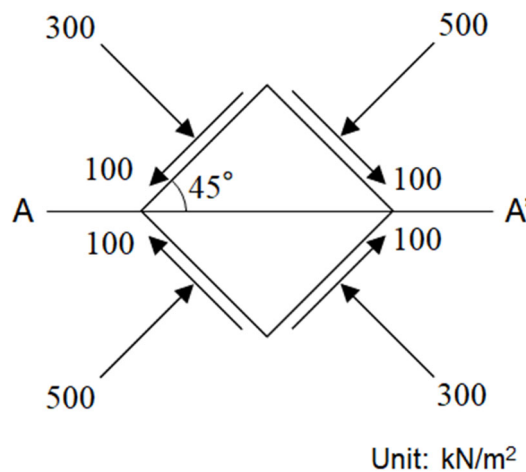

Fig. 4
- (1) The stress state at a certain point in the ground is given in Fig. 4.
- 1) Draw a Mohr's stress circle for the stress state shown in Fig. 4. Indicate the center coordinate and the radius of the stress circle.